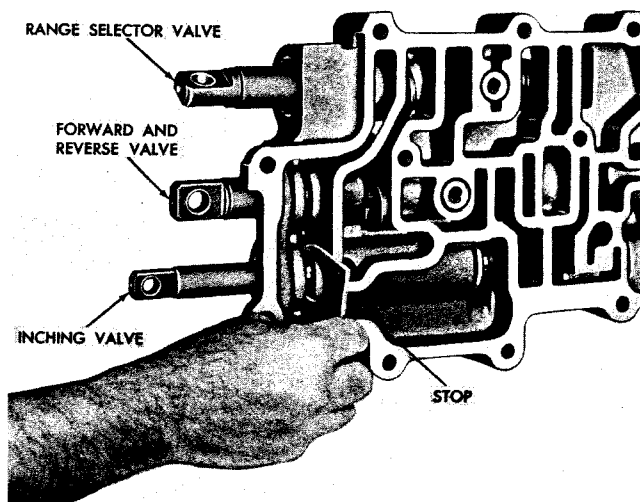

Fig. 6-3. Removing (or installing) inching valve stop—later model
a. Disassembly (item 6, B, foldout 15)
(1) Remove the inching valve stop from the valve body (fig. 6-3).